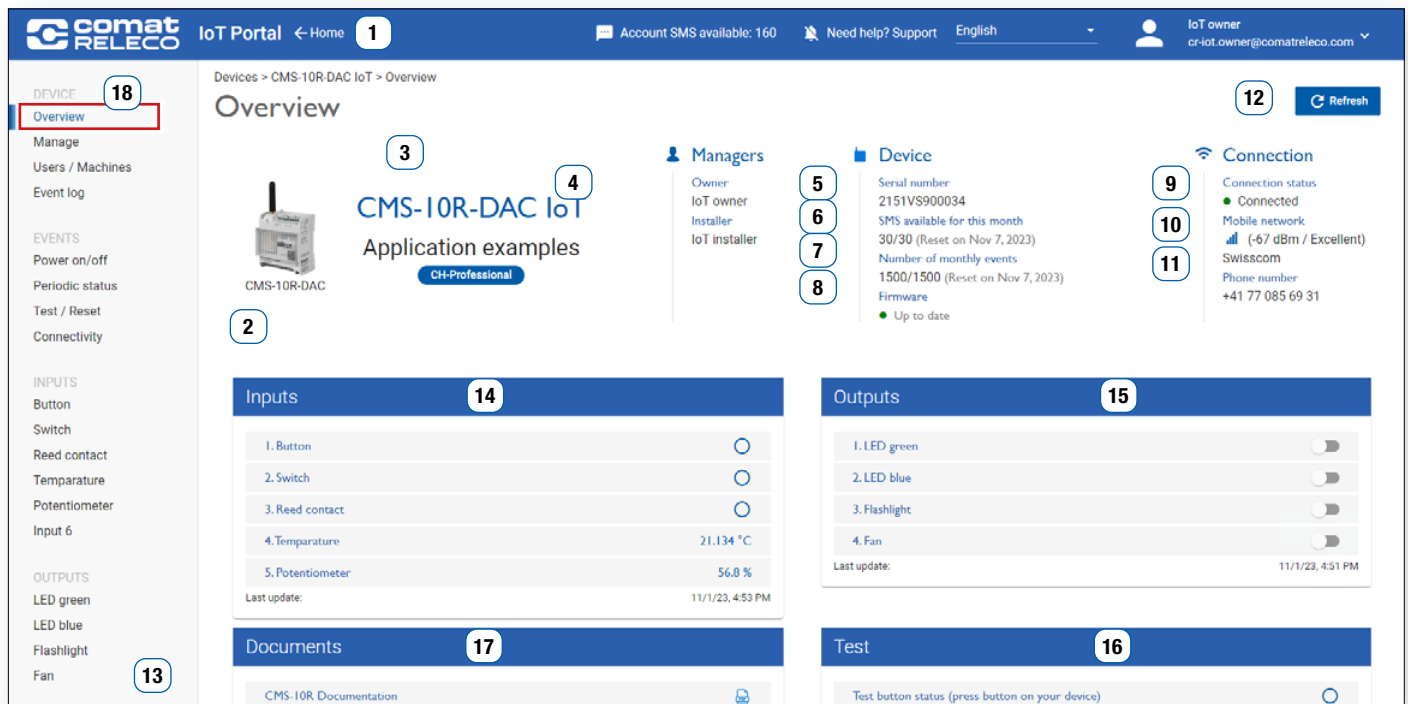

Figure 40
To do this, the receiver sends the **Help** message via SMS to the phone number of the device (see Figure 40 (11)). Afterwards, the current **SMS control messages** of all outputs (see Figure 71 (5)) whose message is activated are sent back to the message recipient.